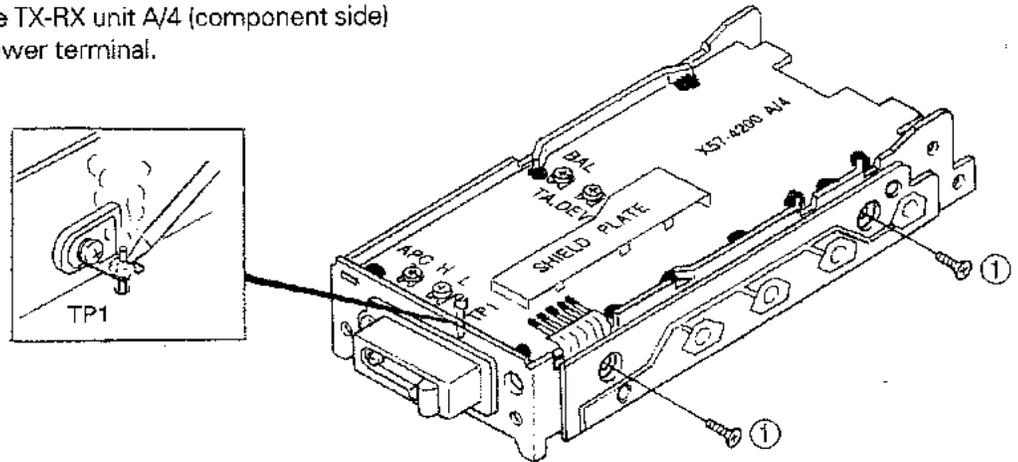

Fig. 3
5. Removing the TX-RX Unit A/4 (Fig. 3)